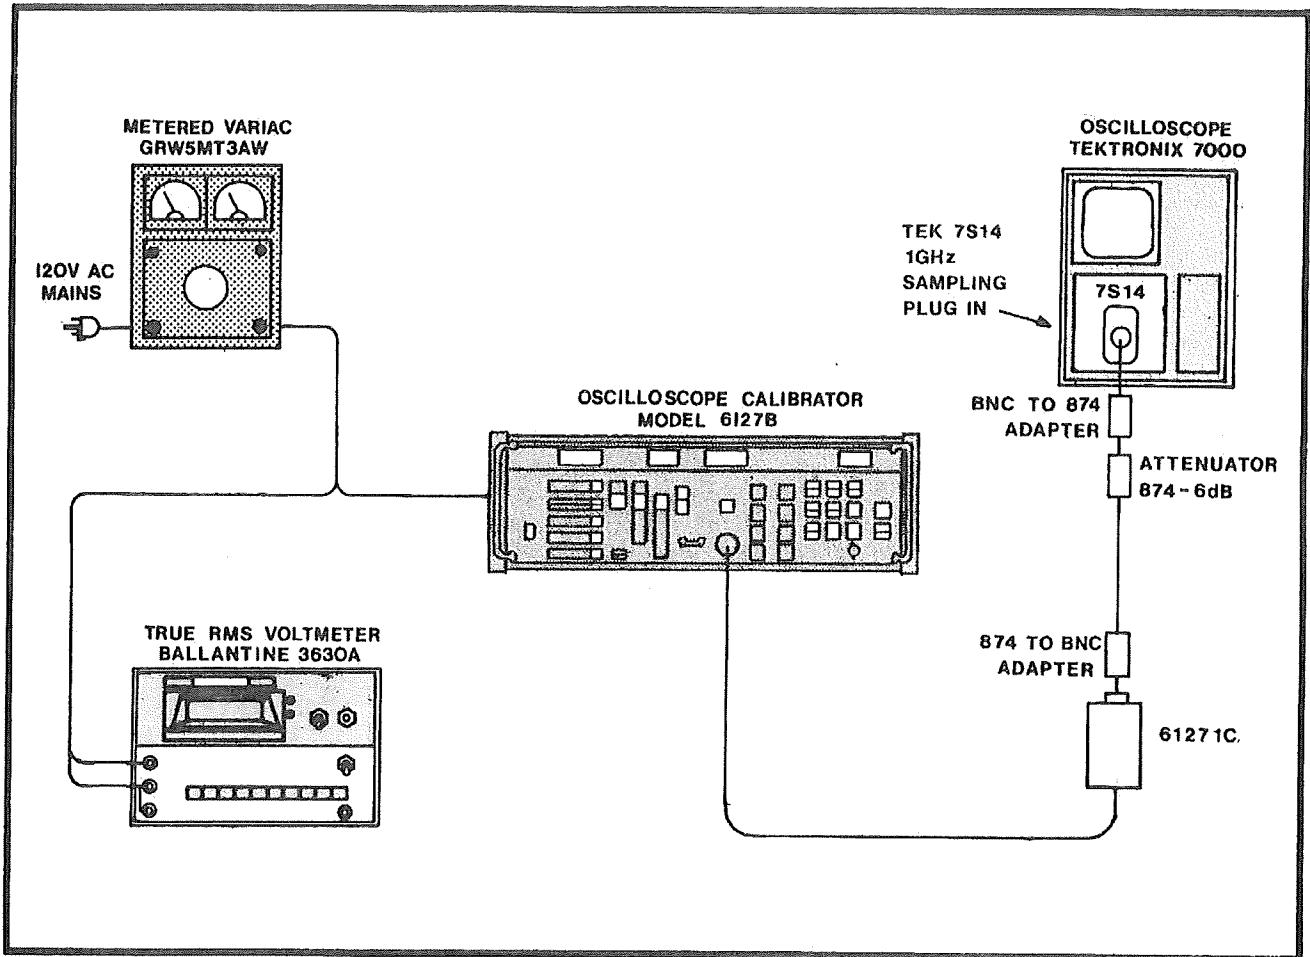

Figure 5-4b. LOW DISTORTION PULSE 20 mV to 1 Volt, 50Ω Output Check, Test Set-Up
a. Connect the equipment as shown in figure 5-4b. Connect the 61271C Head to the sampling oscilloscope CH1 50Ω input.